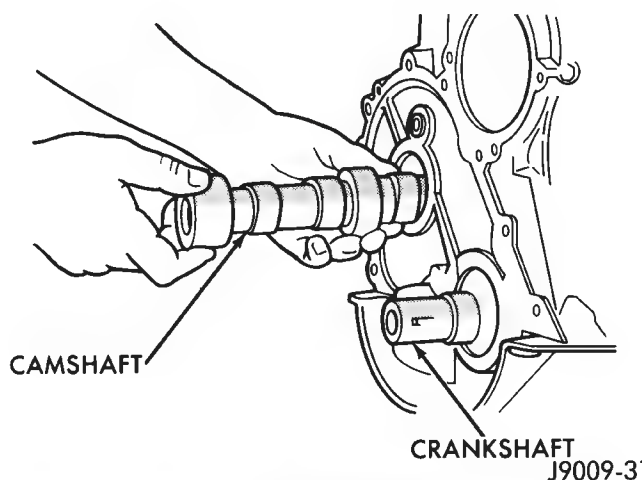

Fig. 10 Camshaft
(5) Scribe a mark on the distributor housing near the damp and continue the scribe mark on the cylinder block in line with the distributor mark.
(6) For ease of installation, note the position of the rotor and distributor housing in relation to adjacent engine components.
(7) Remove the distributor and ignition wires.
(8) Remove the engine cylinder head cover.
(9) Remove the rocker arms, bridges and pivots.
(10) Remove the push rods.
(11) Remove the hydraulic valve tappets from the engine cylinder head.
(12) Remove the vibration damper.
(13) Remove the timing case cover.
(14) Remove the timing chain and sprockets.
(15) Remove the camshaft (Fig. 10).
(1) Lubricate the camshaft with Mopar Engine Oil Supplement, or equivalent.
(2) Carefully install the camshaft to prevent damage to the camshaft bearings (Fig. 10).